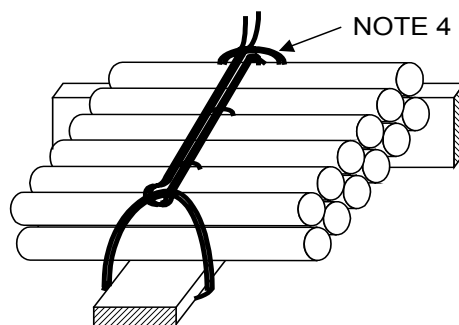

FIGURE 16d
4. TIGHTEN KNOT OVER TOP OUTSIDE EDGE OF CABLE (FIGURE 16d).